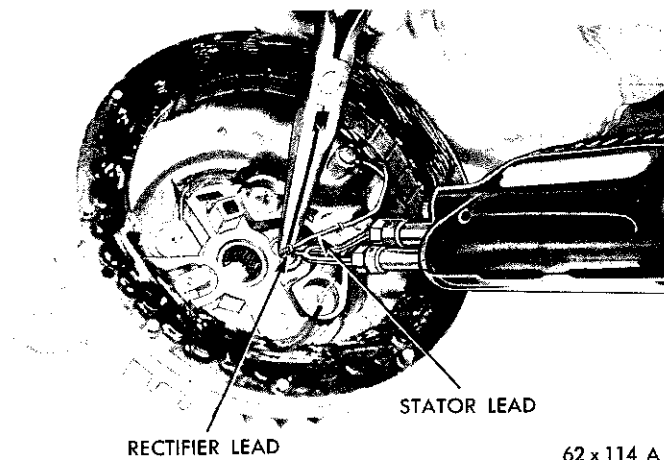

Fig. 36—Soldering Rectifier and Stator Leads
(4) Clean the leads and mate the stator lead with the rectifier wire and bend the loop snugly around the stator lead to provide a good electrical and mechanical connection. Solder the wires with resin core solder. Hold the rectifier lead wire with pliers just below the joint while soldering Fig. 36. The pliers will absorb the heat from the soldering operation and protect the rectifier.